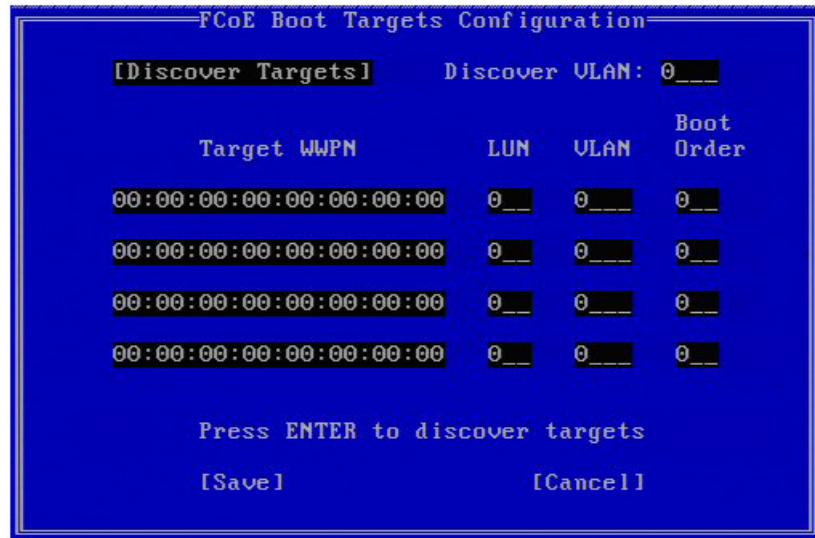

Figure 38 FCoE Boot Targets Configuration menu
3. After selecting a port, go to the **FCoE Boot Targets Configuration** page. **Discover Targets** is selected by default, as shown in Figure 38. If the **Discover VLAN** value displayed is not what you want, enter the correct value.
4. With **Discover Targets** selected, press **Enter** to show targets associated with the **Discover VLAN** value. Under the **Target WWPN** list, if you know the desired WWPN, you can manually enter it or press **Enter** to display a list of previously discovered targets, as shown in Figure 38.